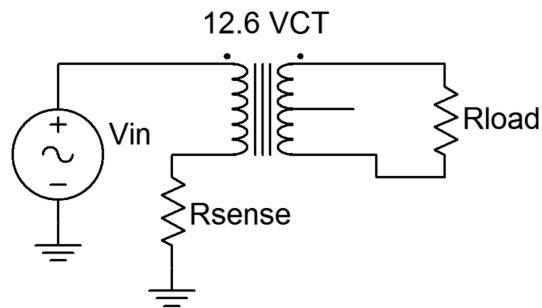

Figure 2
3. Build the circuit of Figure 2 using $R_{\text{sense}} = 22 \Omega$, $R_{\text{load}} = 10 \Omega$ and $V_{\text{in}} = 5$ volt peak sine at 60 Hz. Place one scope probe across the load and the other across R_{sense} . Record the peak amplitudes in Table 2 and capture an image of the scope display.